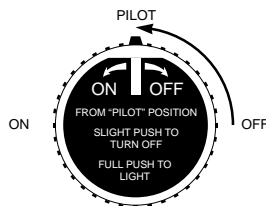

Figure 3 - PILOT Position
4. Turn control valve knob 1/4 turn to left to PILOT position (see Figure 3).